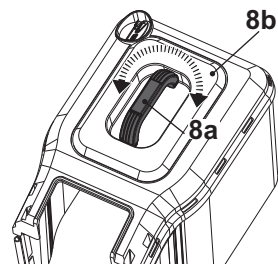

Fig. 6
2. The carry handle (8a) is already preassembled on the top cover (8b) and its position is rotatable to fit the intended use (Fig. 6).
3. The grass catcher (8) is ready for use.